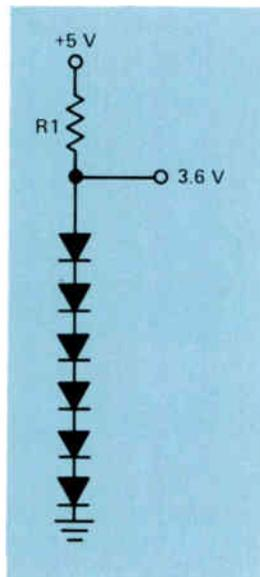

Figure 10. Forward-biased diodes used in a voltage regulator circuit.
**Diode Regulation.** Forward-biased diodes can also be used as voltage regulators. A silicon diode, when it is conducting, has a voltage drop of approximately 0.6 volt across it, which remains constant over a fairly wide current range. By arranging forward-biased diodes as shown in Fig.10, the voltage regulated by the series-connected diodes will be considerably higher than the voltage that could be regulated by a single diode.
In the circuit shown in Fig.10, six diodes, each with a voltage drop of 0.6 volt across it, are used to obtain a regulated voltage of 3.6 volts. You may encounter several strings of diodes, such as shown in Fig.10, in an IC where several regulated voltages are needed.